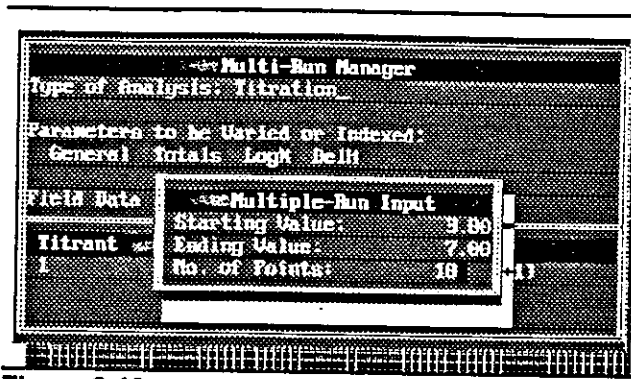

Figure 2.10.
The basic process is one in which you move the cursor to the parameter that you want to vary, and select it by pressing **Return**. When running a **Titration** or **2-Way** analysis, additional information will be asked for: (1) *Starting Value*, (2) *Ending Value*, and (3) *Number of Points* (Figure 2.10). It is important to understand that the values used in starting and ending a titration refer to *cumulative* values. For example, if you want to simulate a titration of a 1 liter distilled water system with 1.0N HCl, and if you add it in 1 μ l increments, then the HCl is being added in increments of 1×10^{-6} moles. Given that this titration will have 10 points, the starting value of H(+) and Cl(-) would be 1×10^{-6} and the ending value 1×10^{-5} (i.e., 1×10^{-6} multiplied by the number of points). *See the Tutorial for further examples of setting these values.*